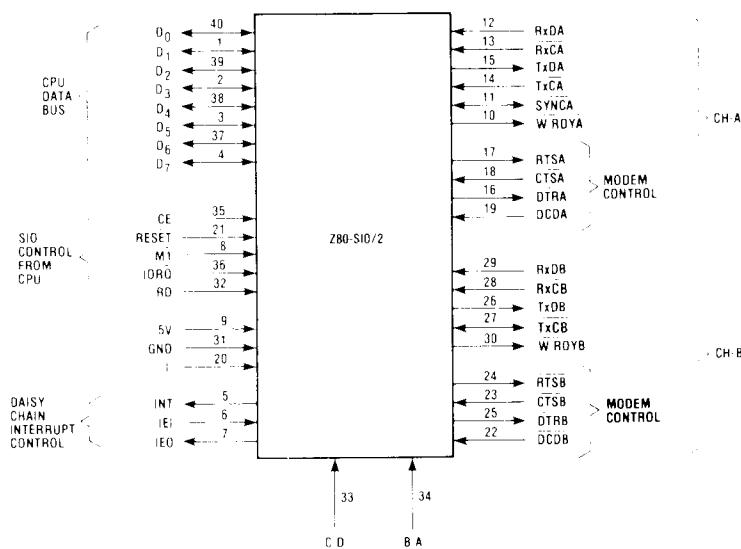

Figure 3. Z80-SIO/2 Pin Configuration
- Z80-SIO/2 sacrifices $\overline{\text{SYNC}}\text{B}$ and keeps $\overline{\text{TxC}}\text{B}$, $\overline{\text{Rx}}\text{C}\text{B}$ and $\overline{\text{DTR}}\text{B}$ (Fig. 3).